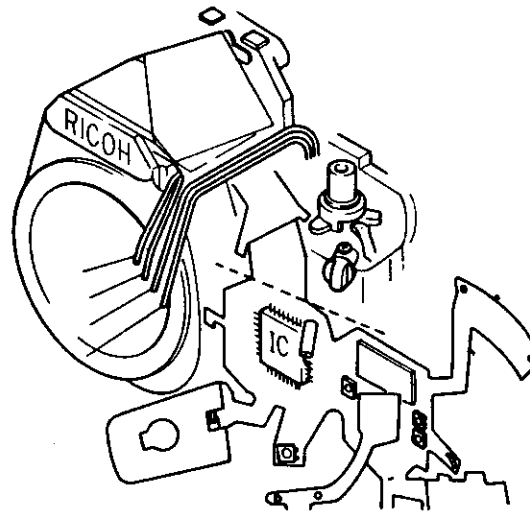

Fig. 9
- 9) Move the SPD CIRCUIT BOARD ASSY with care as shown in Fig. 9.